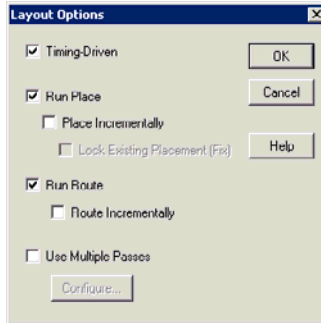

Figure 2-25. Layout Options Dialog Box
5. Layout the Design. From **Designer**, click **Layout**. This opens the **Layout Options** dialog box shown in Figure 2-25.